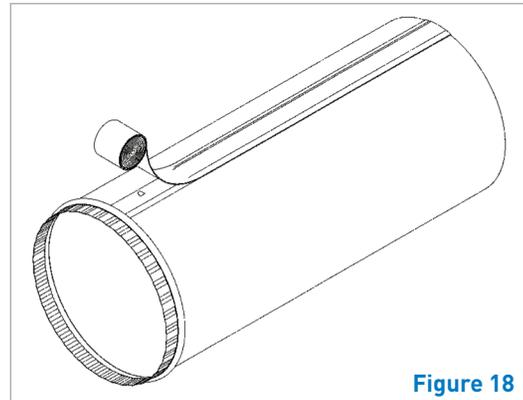

Figure 18
- Join the seams of the intermediate tubes by interlocking the pre-punched tabs to make a complete cylinder. Completely seal the outside of the seam with the adhesive tape supplied, ensuring that the joint is fully covered (Figure 18).